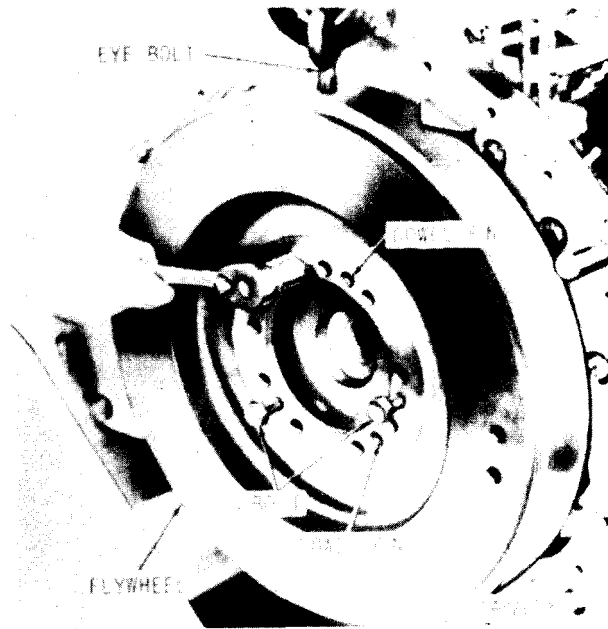

Figure 3-118. Removing flywheel, model AVDS-1790-2C and AVDS-1790-2D engines.
b. Position flywheel to locate lifting eye bolt hole at top center. Install three 9/16x 1-3/4 in. bolts (fig. 3-118) from transmission drive spur gear and flywheel into flywheel holes. Alternately tighten bolts until flywheel is far enough from crankshaft dowel pins to permit installation of lifting eye bolt. Install lifting eye bolt Part No. MS51937-7.